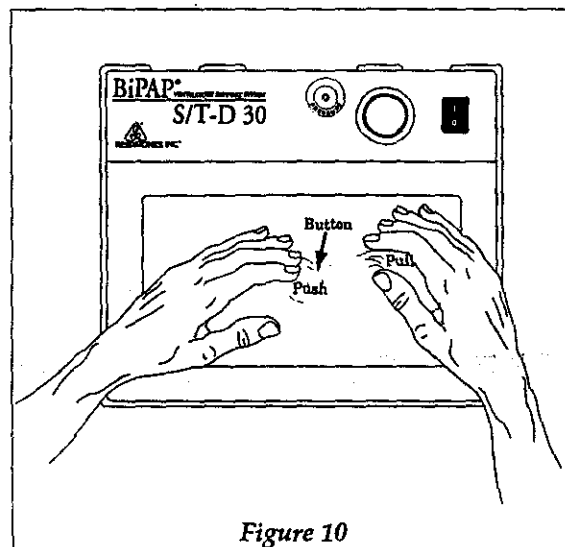

Figure 10
- Step 1 Turn OFF (O) the BiPAP 30 unit and unplug the electrical cord from the wall outlet and from the back of the unit.
- Step 2 Locate the button in the center of the filter holder beneath the surface of the filter. Push in on the button and pull the filter out from all four sides of the filter holder. See Figure 10.